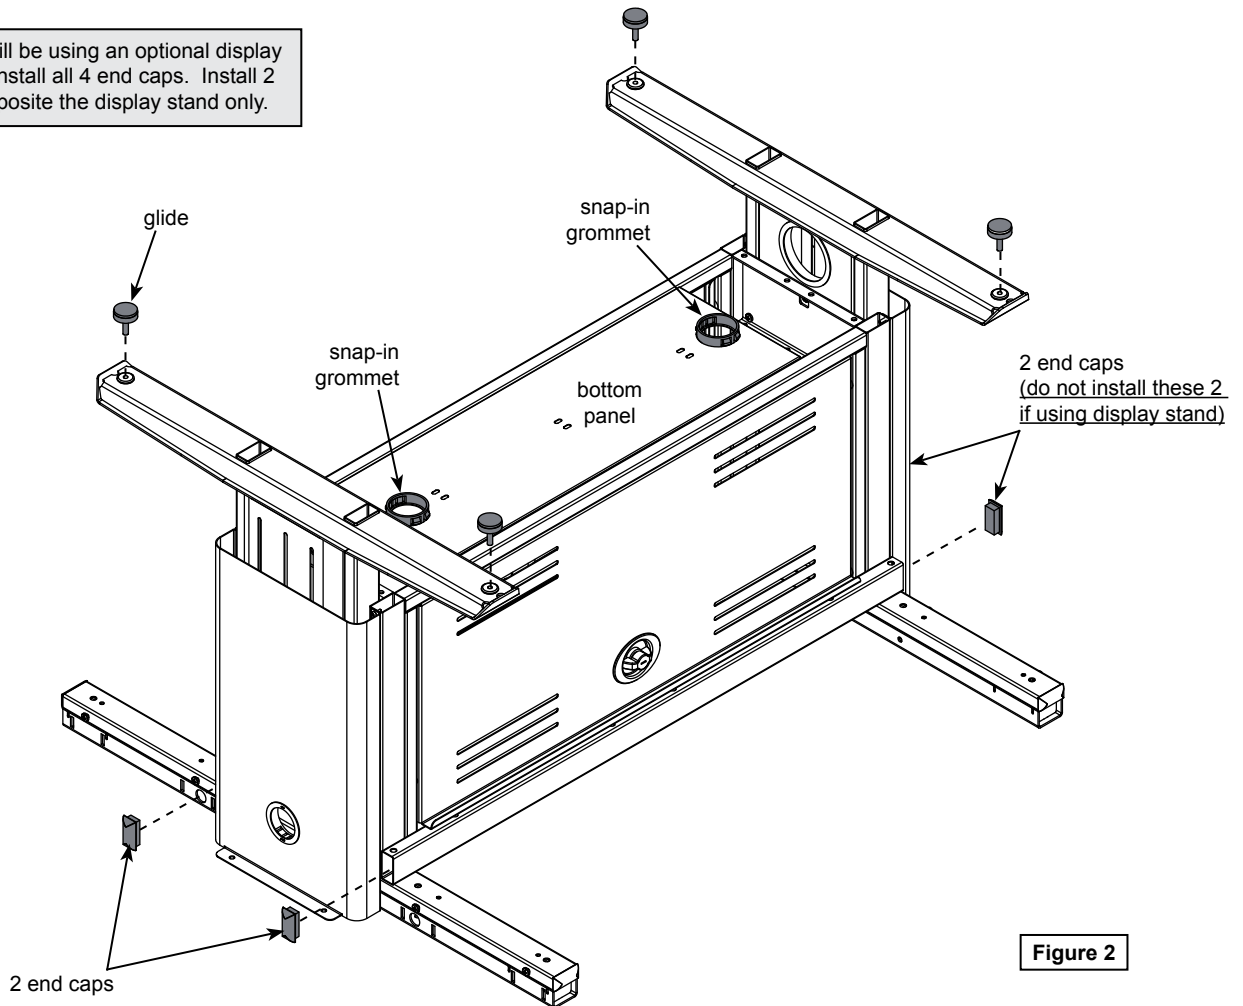

Figure 2
1. With the table still upside-down, install the glides onto the legs (4) on fixed / set- and-go, (6) on eLift legs. **Figure 2.**
3. Install the (2) snap-in grommets from inside into the bottom panel. (One of the side panels may need to be removed to gain access.)